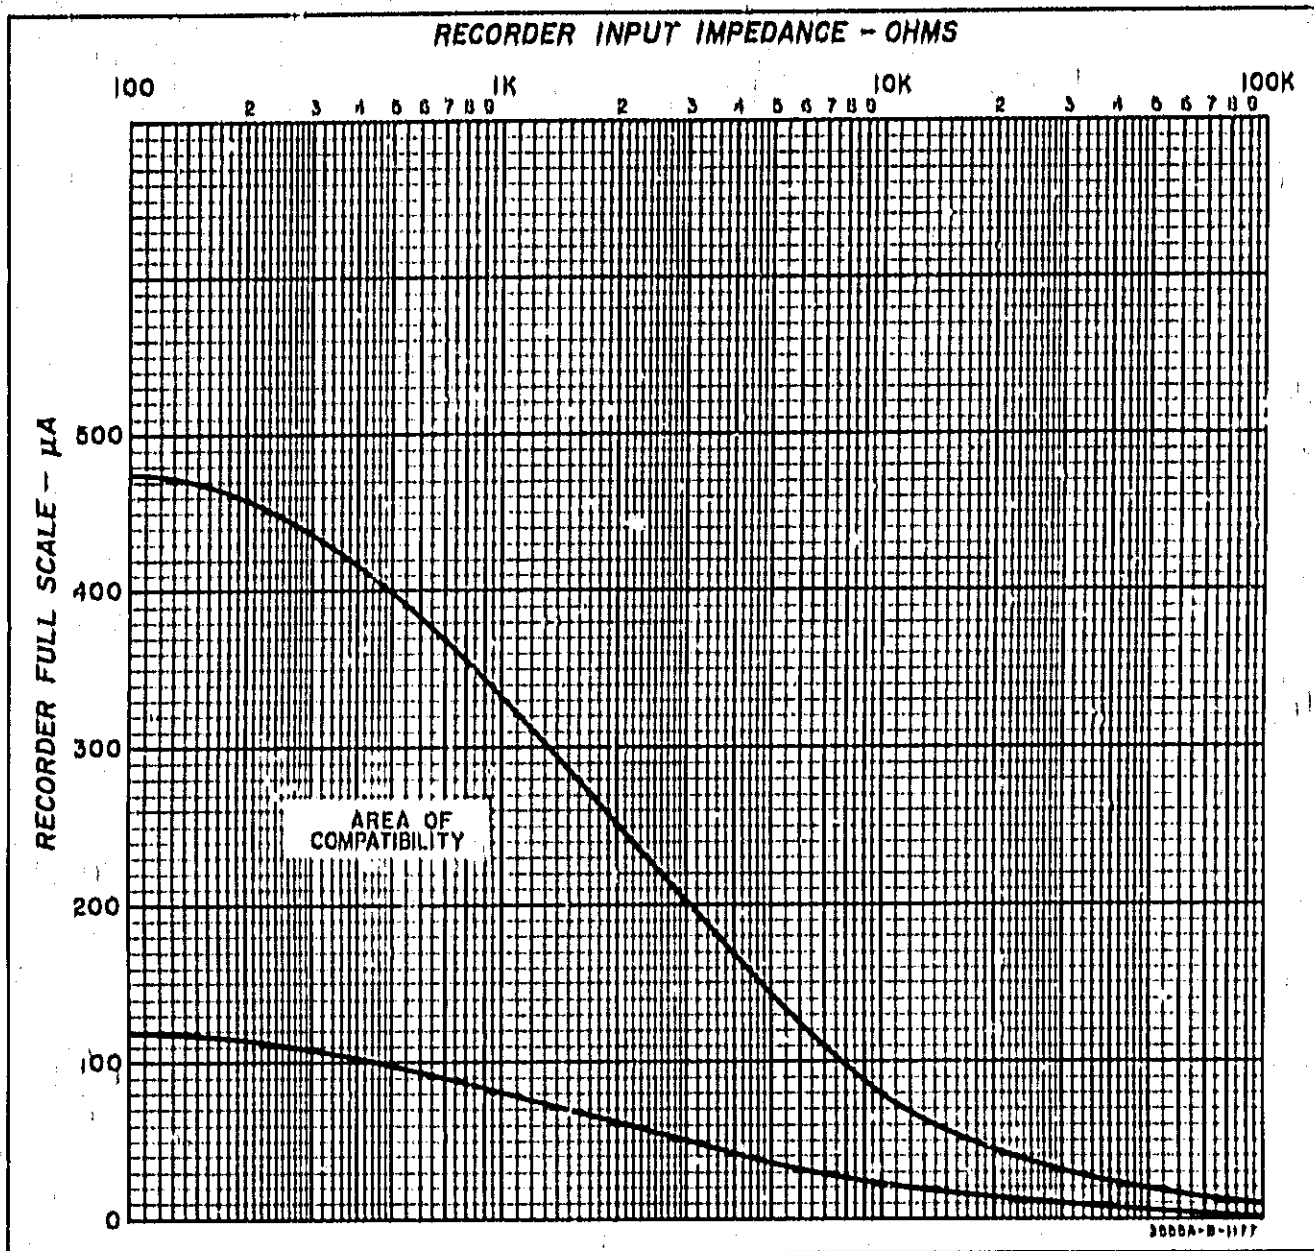

Figure 3-4. Recorder Compatibility Chart
3-27. The jack marked DC MON accepts a Western Electric 310 or 347 plug with connections to the tip and sleeve. The dc voltage supplied by this jack can be used to operate a dc potentiometric recorder requiring 1V or a dc galvanometric recorder requiring 500uA. The dc output is proportional to input level on any one range and not meter deflection since the meter is logarithmically scaled. Knowing the current required to drive the recorder full scale and the input impedance of the recorder, enter these numbers into the recorder compatibility chart Figure 3-4 to determine if the recorder is suitable for use with this set. If these numbers do not fall within the compatibility area, refer to Paragraph 3-41. Connect an input voltage to the set and adjust the RANGE switch until a near full scale indication is observed on the meter. Connect the recorder plug with the tip negative to the DC MON jack and adjust the input level until the meter indicates 0dBm. Mark this point, which should be near full scale, on the recorder paper. Decrease the input level until the meter indicates -1dBm. Mark this point on the recorder paper. Continue until the recorder has been calibrated for each major dBm division on the meter. The actual input level to the set as indicated on the recorder will be the algebraic sum of the RANGE switch setting and the dB indication on the recorder.
3-42. If an external recorder is to be used to monitor the dc output of the 3555B, the Recorder Compatibility graph, Figure 3-4 should be consulted to determine if your particular recorder can be used. Recorders with input characteristics that fall below the compatibility area can be used provided a suitable resistor is used between the 3555B dc output and the recorder input.
3-44. Recorders with input characteristics that fall above the compatibility area in Figure 3-4 cannot be used to monitor the 3555B dc output since full scale deflection of the recorder cannot be accomplished by the 3555B.
1.	Determine the input impedance and full scale sensitivity of your recorder and refer to paragraph 3-4) and Figure 3-4 to determine if your recorder is suitable for use with this set. The dc voltage supplied by the DC MON 310 jack will drive a dc potentiometric recorder requiring 1V or a dc galvanometric recorder requiring 500uA.